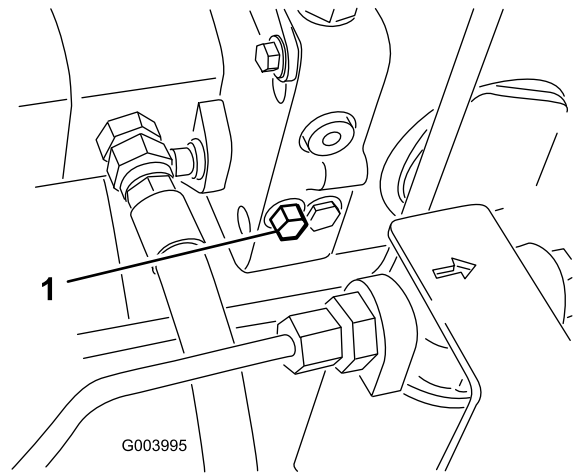

Figure 44
1. The bypass valve is located on the left side of the hydrostat (Figure 44). Rotate the bolt 1-1/2 turns to open and allow oil to bypass internally. Because fluid is bypassed, the machine can be moved slowly without damaging the transmission.